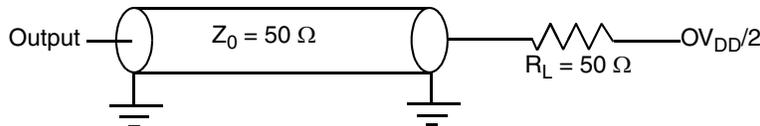

Figure 32. AC Test Load for the JTAG Interface
1. All outputs are measured from the midpoint voltage of the falling/rising edge of t_{TCLK} to the midpoint of the signal in question. The output timings are measured at the pins. All output timings assume a purely resistive 50-Ω load (see Figure 32). Time-of-flight delays must be added for trace lengths, vias, and connectors in the system.
2. The symbols used for timing specifications herein follow the pattern of $t_{(first\ two\ letters\ of\ functional\ block)(signal)(state)\ (reference)(state)}$ for inputs and $t_{(first\ two\ letters\ of\ functional\ block)(reference)(state)(signal)(state)}$ for outputs. For example, t_{JTDVKH} symbolizes JTAG device timing (JT) with respect to the time data input signals (D) reaching the valid state (V) relative to the t_{JTG} clock reference (K) going to the high (H) state or setup time. Also, t_{JTDXKH} symbolizes JTAG timing (JT) with respect to the time data input signals (D) went invalid (X) relative to the t_{JTG} clock reference (K) going to the high (H) state. Note that, in general, the clock reference symbol representation is based on three letters representing the clock of a particular functional. For rise and fall times, the latter convention is used with the appropriate letter: R (rise) or F (fall).
Figure 32 provides the AC test load for TDO and the boundary-scan outputs.